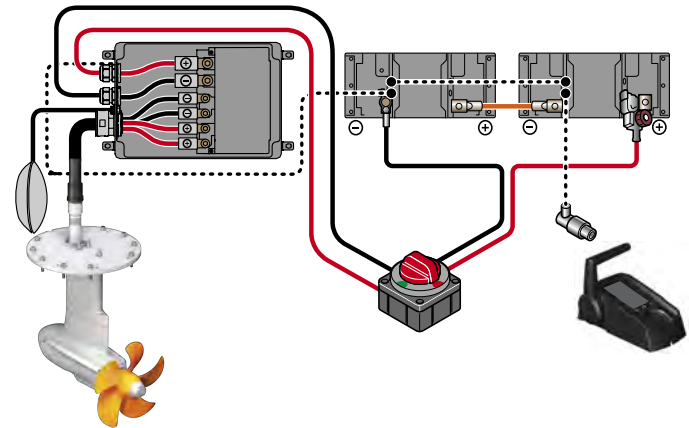

Fig. 58: Wiring diagram for Power 26-104
2. Connect the remaining cables to the batteries, see "**Fig. 58: Wiring diagram for Power 26-104**".